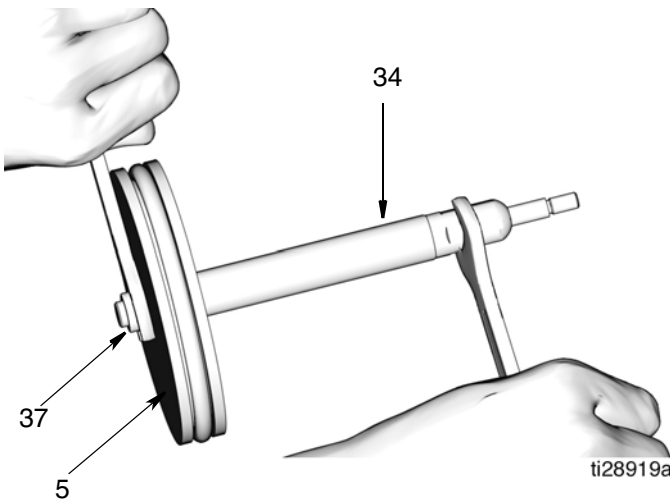

FIG. 22
- Separate piston rod (34) and piston (5) using two wrenches, working in opposite directions. Secure one wrench to flats of piston rod and the second wrench to loosen the nut (37) (FIG. 22).